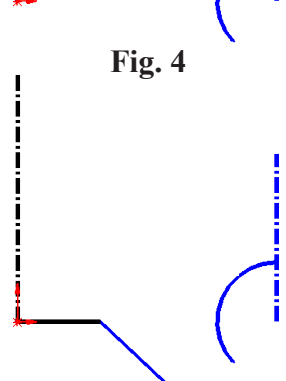

Fig. 5
Step 9. Click **Line**  (L) on the Sketch toolbar.
Step 10. Sketch a **horizontal line from Origin**  to right and a **chained a line down at angle**, **Fig. 5**.